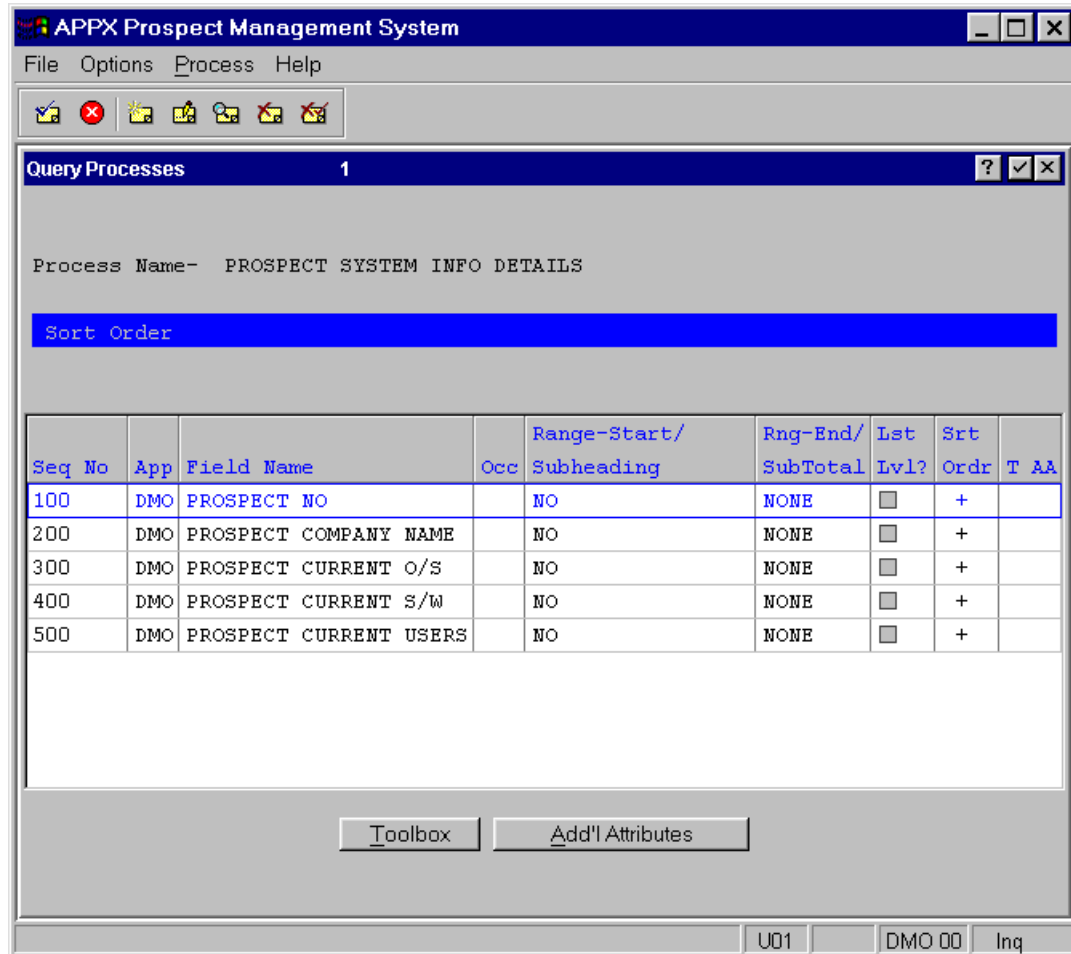

Figure E4.8 – Sort Order Screen
- You notice that the letters, "SO", are showing under the **Options** heading which indicates that the Query definition includes **Sort Order** specifications. Press **ENTER** to access the **Sort Order** screen as shown in *Figure E4.8* below.